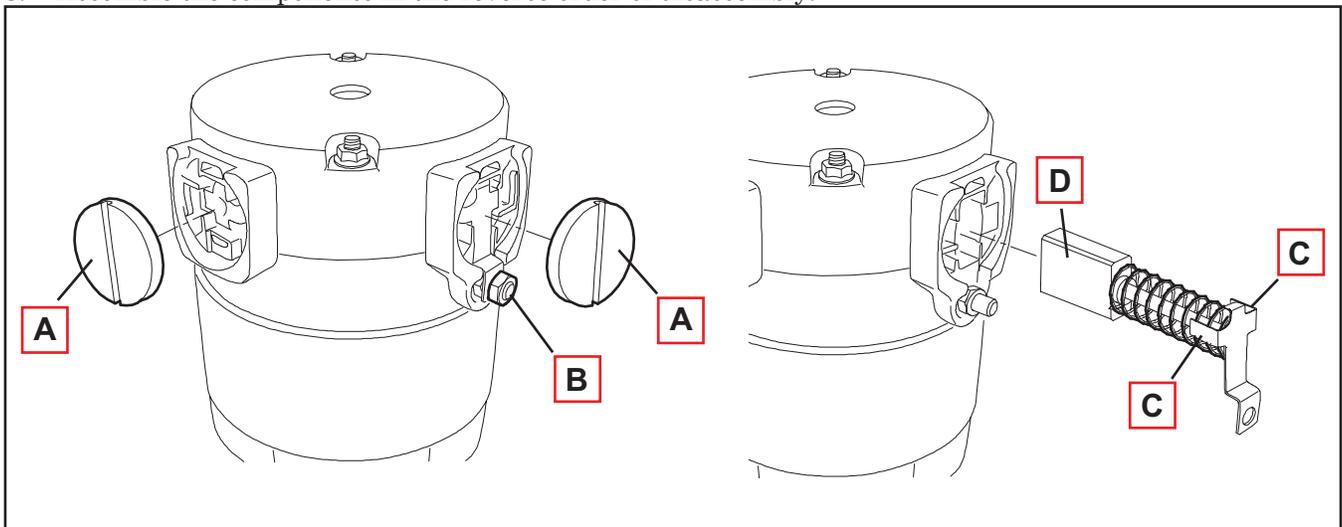

Figure 11
3. Remove the four protective covers (A) (Figure 11) by disconnecting the clips.
4. Remove the carbon brush nuts (B) with the lead-in wires.
5. Disengage the tabs (C) and remove the carbon brushes (D).
6. Check the carbon brushes (D) for wear. The carbon brushes are worn out when: